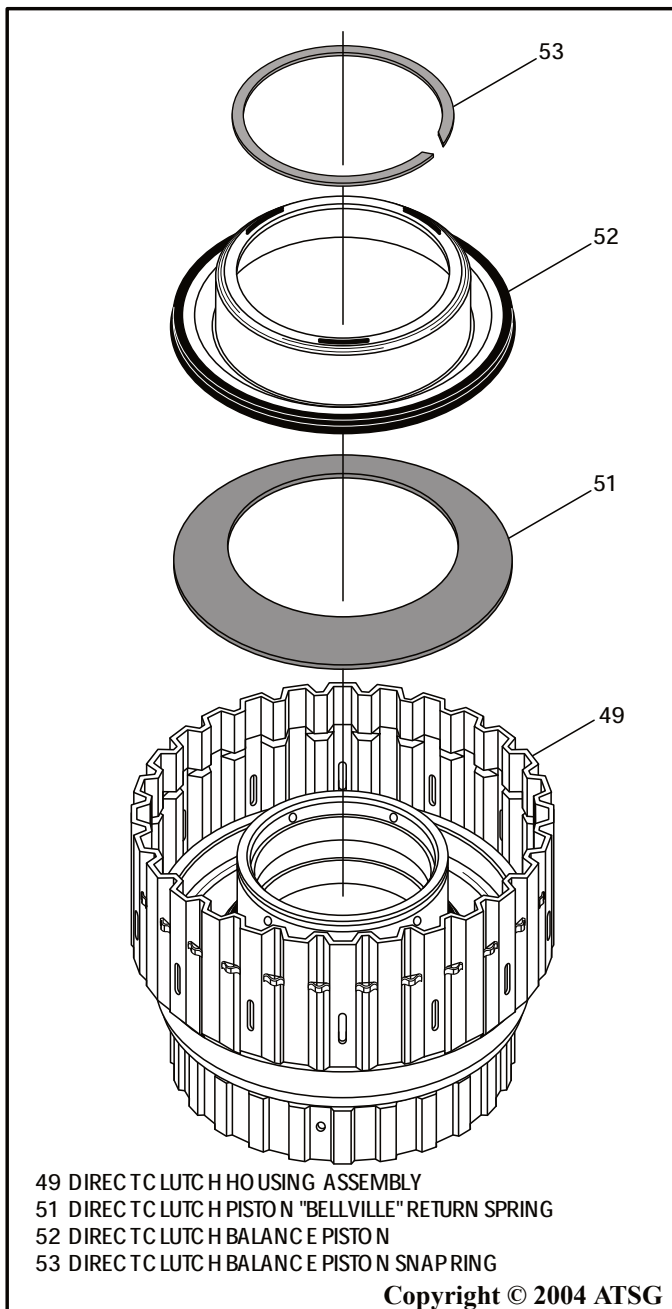

Figure 134
7. Install direct clutch piston "Bellville" return spring on top of the direct clutch piston in the direction shown in Figure 134.
8. Lubricate the seal and install the direct clutch balance piston, as shown in Figure 134.
9. Compress the return spring and balance piston and install snap ring (See Figure 134).